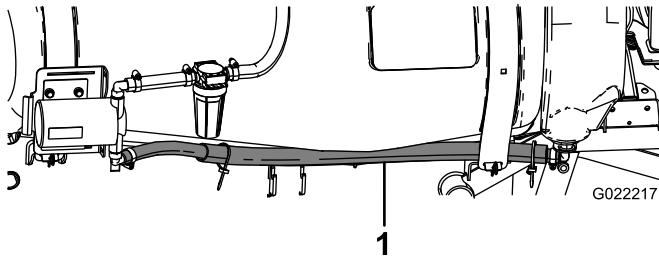

Figure 11
1. Route the rinse tank hose between the front tank strap and the side of the tank (Figure 11).
3. Attach the end of the hose to the lower hosebarb on the rinse pump with a hose clamp (Figure 11).